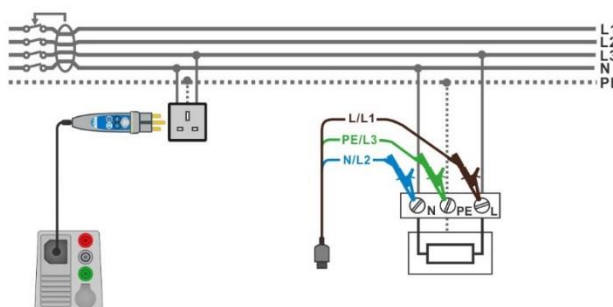

Figure 7.138: AUTO TN (RCD) measurement
- › Connect 3-wire test lead or Plug commander to the object under test, see **Figure 7.138**.